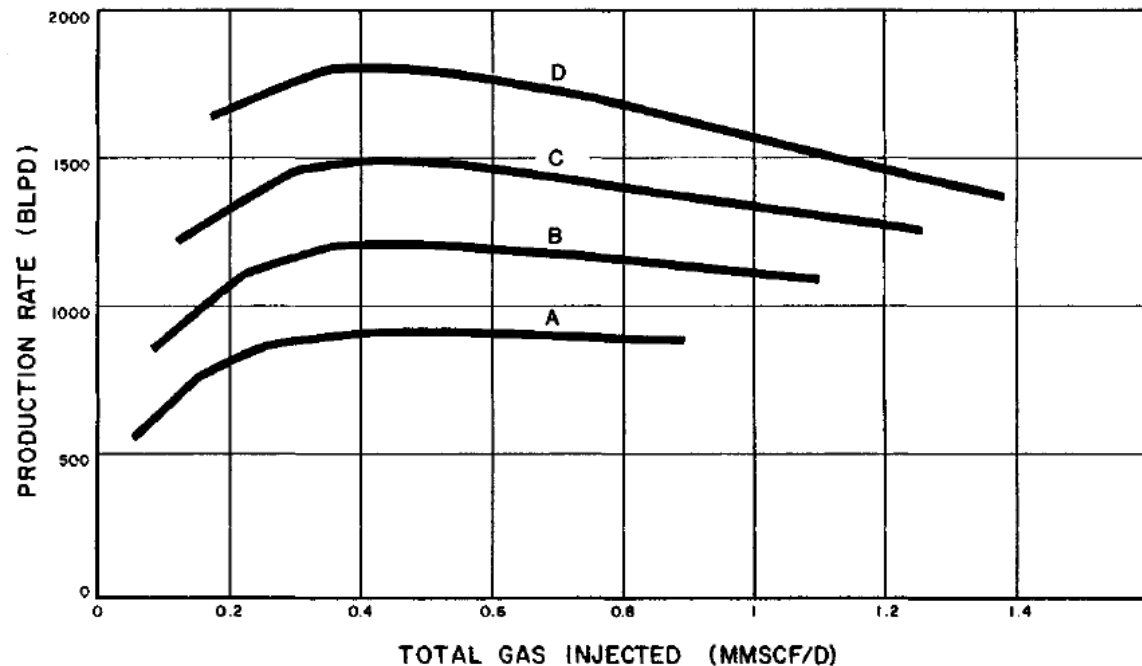

Figure 2-22. Effect of gas lift injection rate on total fluid production rate for a specific set of wells.
- Figure 2-22 shows the effect of gas injection rate. As more gas is injected, the weight of fluid in the tubing decreases and the bottomhole flowing pressure decreases.